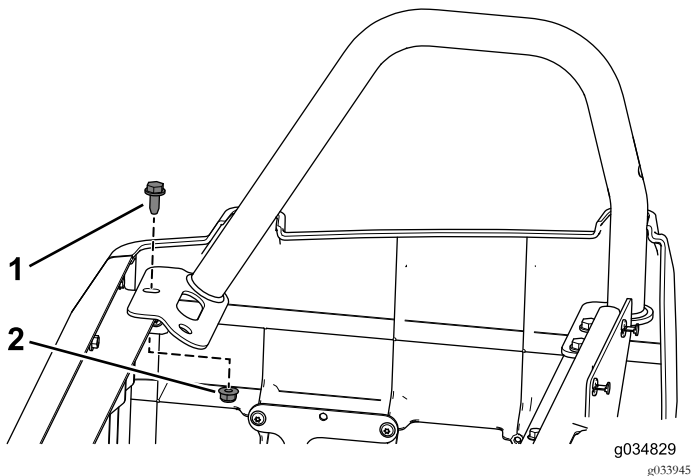

Figure 90
11. Use the flange bolt (3/16 x 3/4 inch) and flange nut that you removed earlier to secure the right, rear-hip restraint to the seat base assembly (Figure 90).